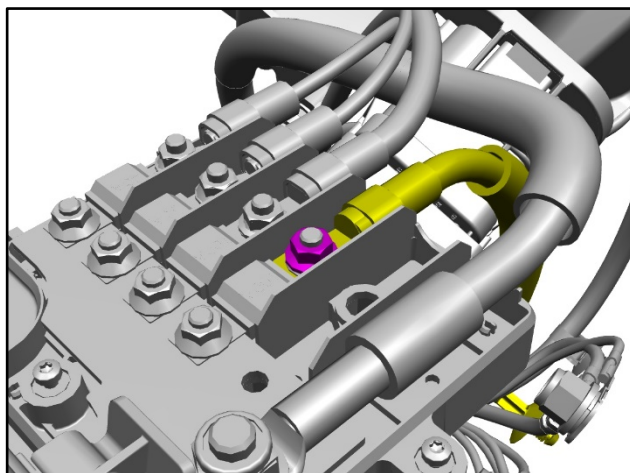

Figure 10
1. Install and torque the nut that attaches the cable to the fuse box to 5 Nm (refer to Figure 10).